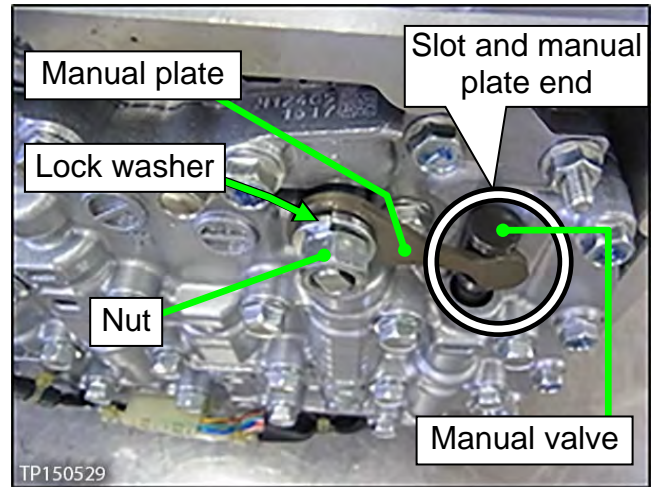

Figure 11A
7. Install the manual plate, lock washer, and nut (Figure 11A).